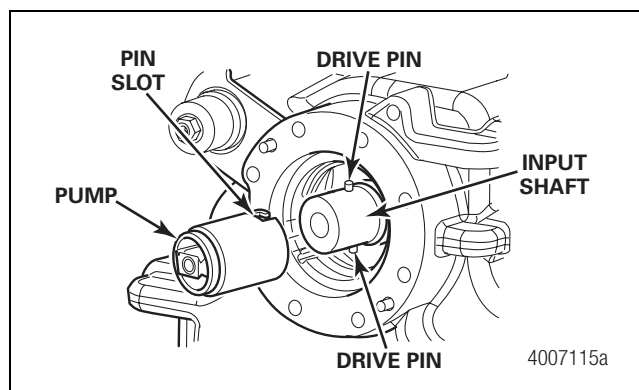

Figure 4.7
3. Remove the pump by applying forward pressure to the pump assembly and disengage the assembly from the oil pump drive pins located on the rear half on the input shaft. Figure 4.7.